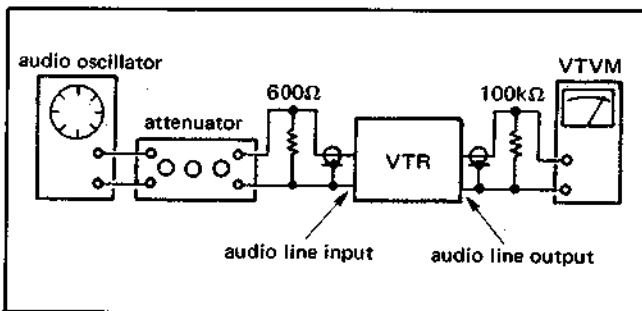

Fig. 1-22 Connections
The connections of the equipment to the input/output terminals are shown in Fig. 1-22.
- (1) Terminate the audio line output terminal with a 100kΩ resistor and connect a VTVM.
- (2) Play back the 5kHz signal segment of the alignment tape (KR5-1M).
- (3) Adjust the azimuth adjustment screw on the audio head for a maximum VTVM reading. (See Fig. 1-22.)